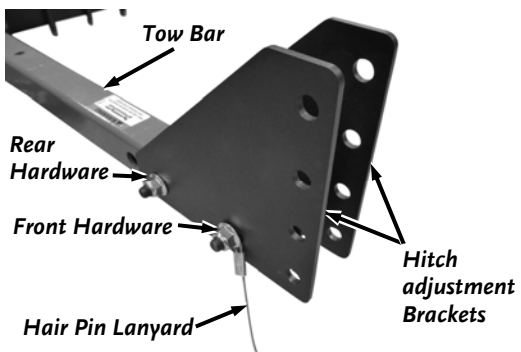

Figure 13
14. Install the two Hitch Adjustment Brackets with a 3/8-16 x 2-1/2" flange Bolt, Locknut and Hair Pin Lanyard at the forward location using two 9/16" Wrenches (**Figure 13**). Secure the rear location with a 3/8-16 x 2-1/2" Bolt and Locknut using two 9/16" Wrenches.